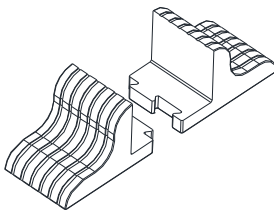

Fig.2-1 Support bases
Step 1: Take out the support bases from the accessories. Their appearances are shown in Fig.2-1.